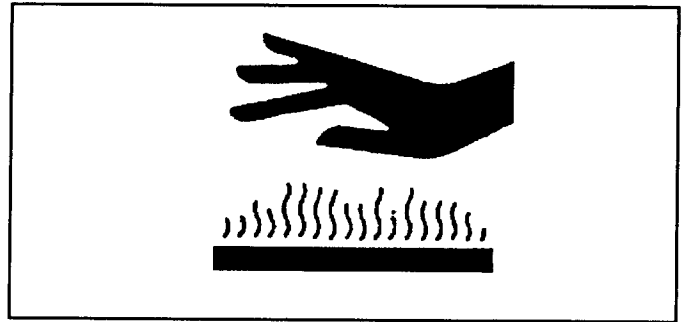

FIGURE 4.5
C. Hot Surfaces & Fluids– FIGURE 4.5